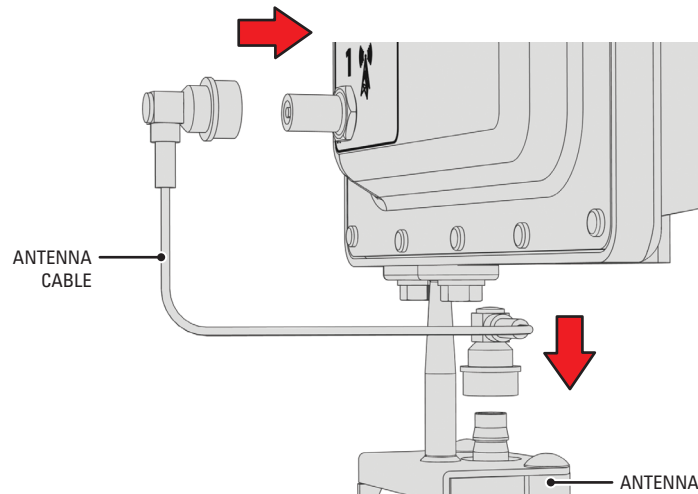

Figure 11. Connecting the Antenna Cable
- c. Connect the antenna cable to the integrated antenna and the EW5001 (refer to Figure 11).